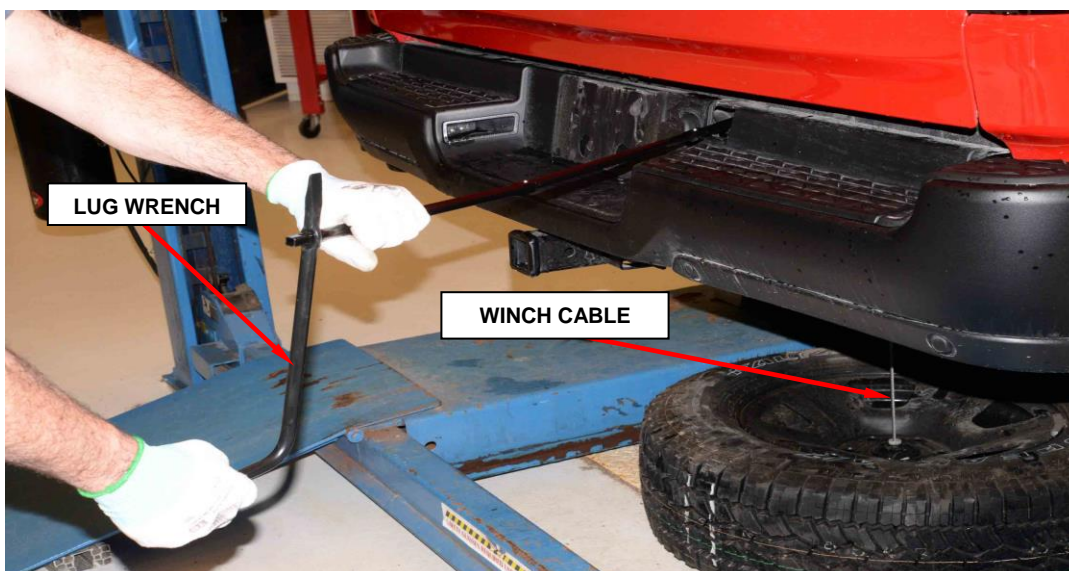

Figure 6 – Spare Tire Removal
6. Insert the tool into the cone-end of the receiving end and turn counterclockwise to lower the spare tire, then remove tire from the winch (Figure 6).
9. Turn the winch in the clockwise direction until the tire is fully retracted into the spare tire area (Figure 6).